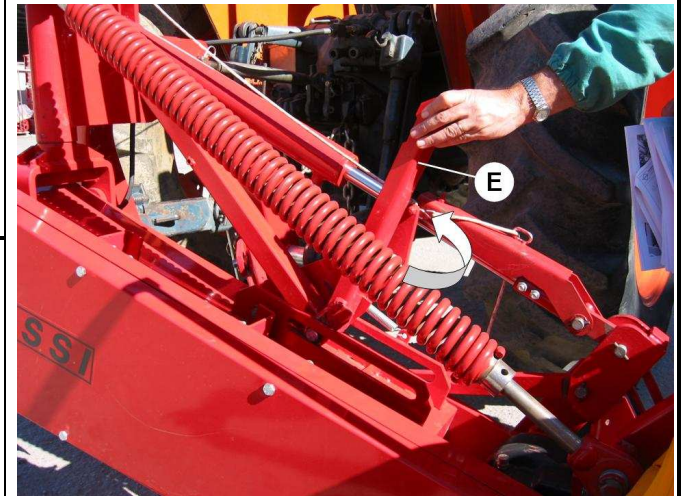
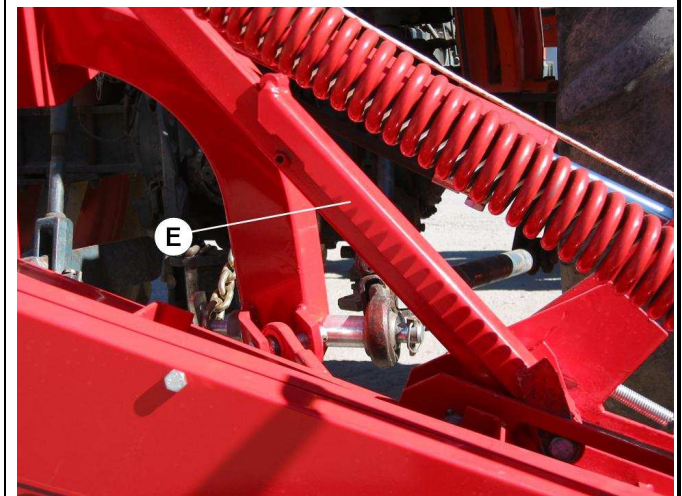

Fig. 22
Fig. 23
5) Lift the machine using the hydraulic lift; turn edge **E** upwards (Fig. 22)
6) **IMPORTANT!!!** During work and transport, edge **E** must always be turned upwards as in Fig. 23.
- 4) Edge **E** must be turned upwards (Fig. 22 – Fig. 23 Pag. 15).